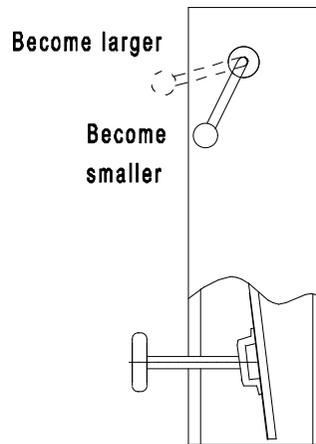

Fig.6
4) Wind concentration part adjustments(see figure 6).